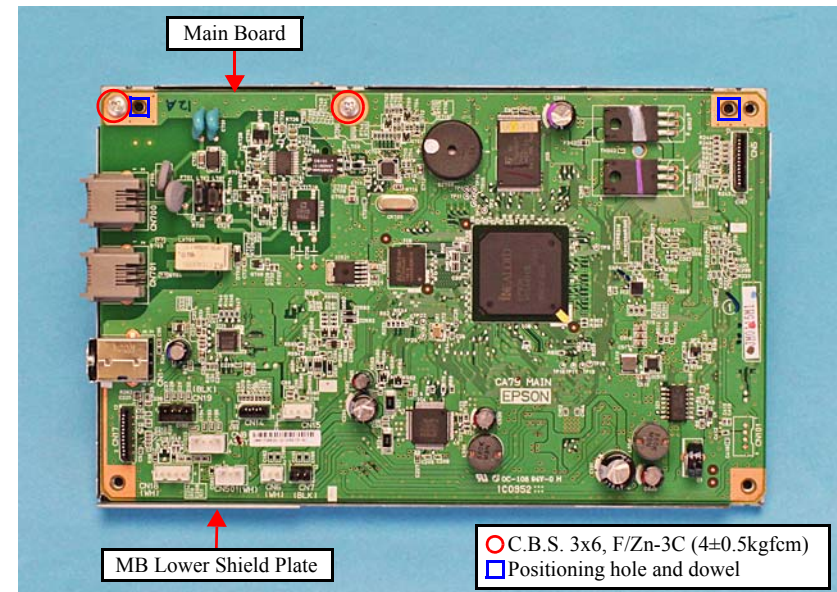

Figure 7-35. Removing the Main Board
- When installing the Main Board to the MB Lower Shield Plate, make sure to match the positioning holes (x2) to the dowels (x2) as shown in Figure 7-35.